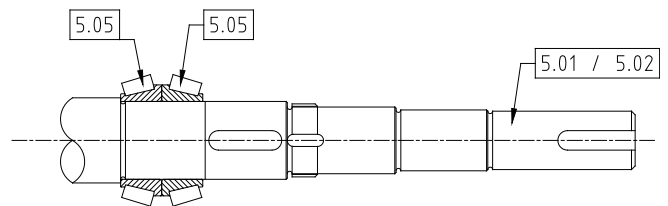

Figure 24
- Install bearing cones (5.05) to shafts (5.01 and 5.02) ensuring they locate against shaft shoulder. The cones are installed as shown in Figure 24.